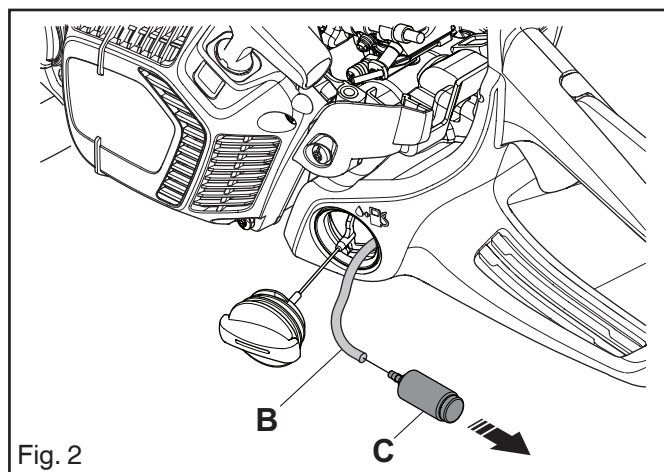

Fig. 2
3. Remove the fuel cap. Use a pair of pliers with smooth jaws and pull out the fuel hose (B) and the fuel filter (C). See Figure 2.